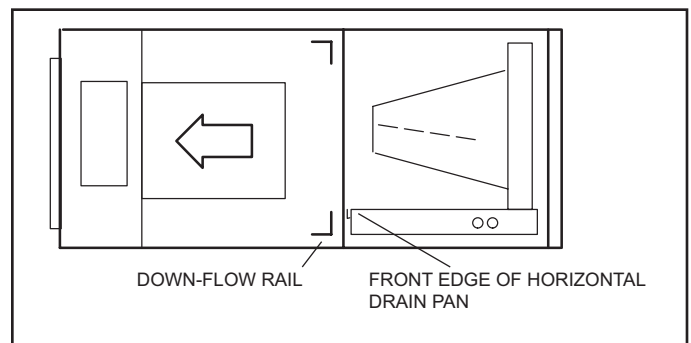

FIGURE 19. Left-Hand Discharge Configuration
- 9 - Install the horizontal shield (-060 model) on the front edge of the horizontal drain pan as illustrated in figure 19.
- 4 - The horizontal configuration is shown in figure 19.